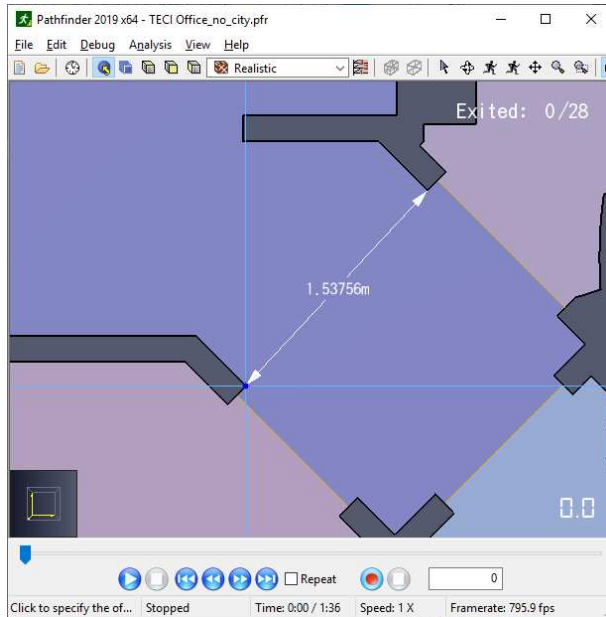

Figure 42. Unmodified dimension
5. If the dimension does not need further adjustments (Figure 42), either press Enter on the keyboard or click the second point again, and the dimension will be added. Skip the remaining steps.